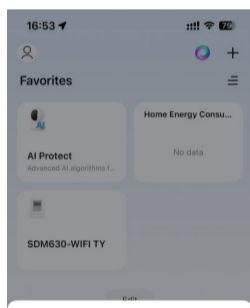

Figure 2
Open the Tuya "Smart Life" APP. If the "Device to be added" pop-up window appears (as shown in Figure 2), click "Add".
- Step 3: Following the direction indicated in Figure 1, engage the lower slot of the DIN rail groove onto the DIN rail until audibly seated (see Figure 2).